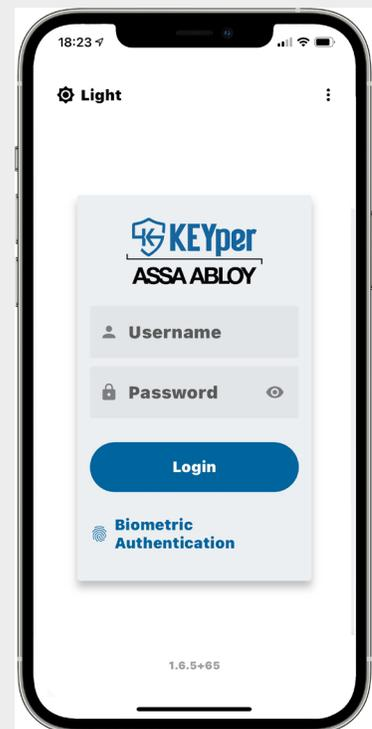

Fig. 19 – Login screen
- 4. On the **Login** screen, shown in Fig. 19, do the following depending on the status of your system: